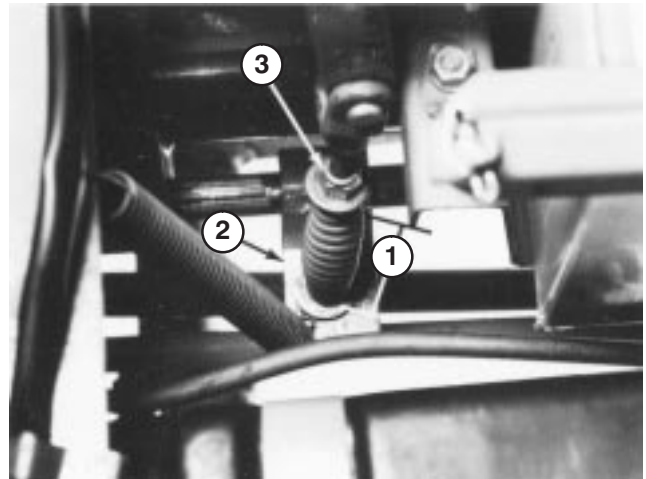

Figure 52
- 3. Measure length of PTO spring between flat-washers (Fig. 52). There should be a spring length of 3-3/16 inches (81 mm).
- 4. To adjust, hold head of adjusting screw with wrench (under PTO actuating arm) and turn locknut (Fig. 52).